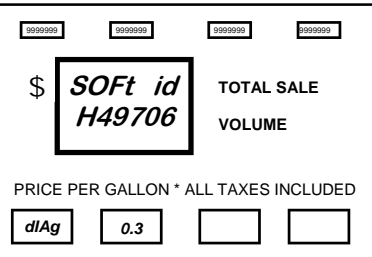

Figure D-4
0.3 - Software I.D. Number. The display shown in Figure D-4 appears. The price display shows the dispenser is in Diagnostics Level 0.3.